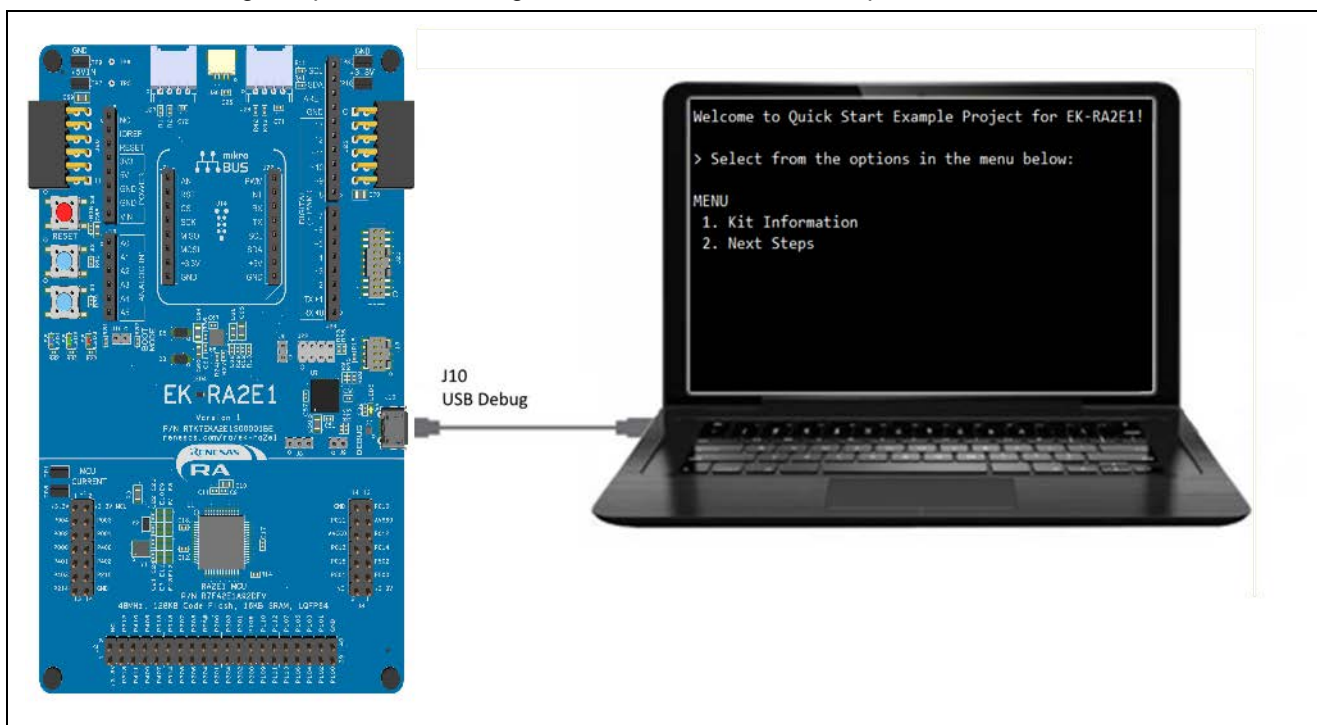

Figure 3. Connecting the EK-RA2E1 Board to the Host PC via USB Debug Port J10
1. Connect the USB cable from the PC to the micro-B USB debug port (J10) of the EK-RA2E1 board as shown earlier in Figure 3.